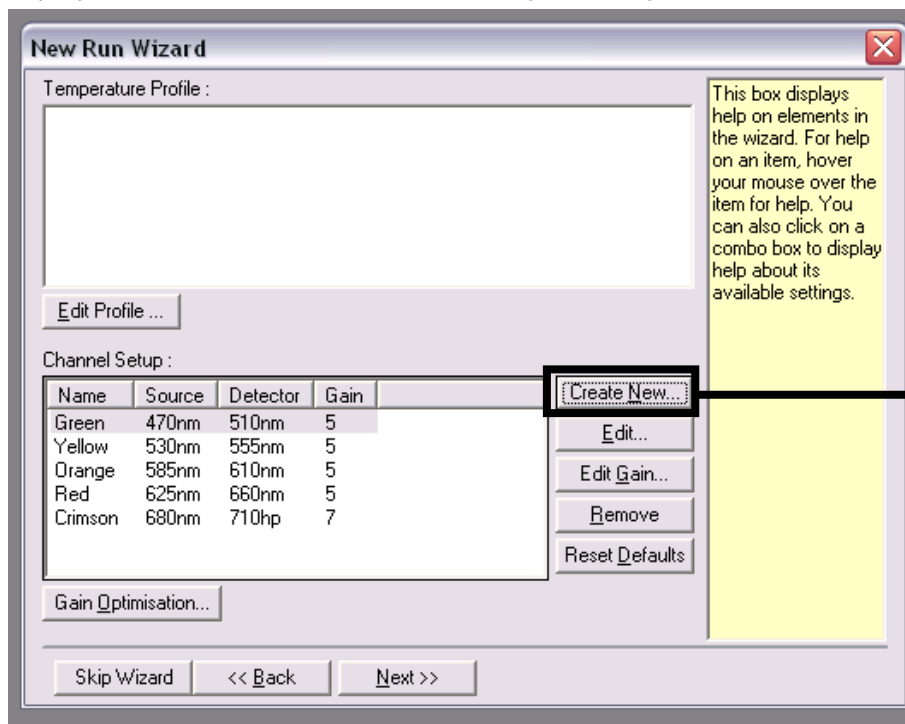
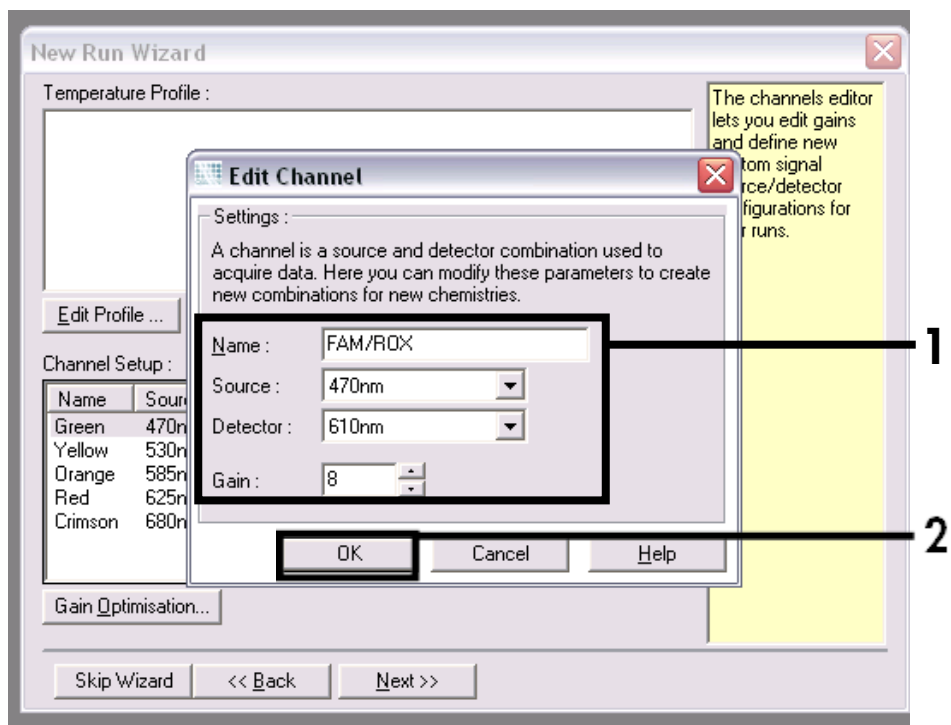
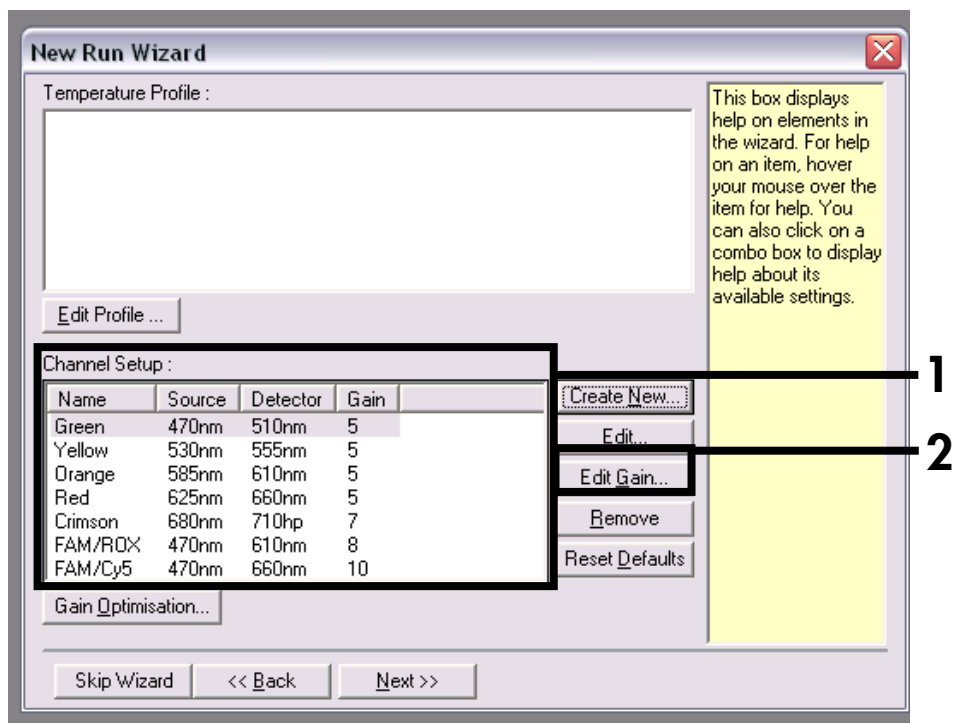

Figure 4. Create new channels.
Figure 5. Create new channel "FAM/ROX".
Figure 7. New channels included.
Creating new channels	Figure 4 to Figure 7
9. Click the “Create New” button in the next “New Run Wizard” dialog box (**Figure 4**), and program 2 additional channels, as shown in **Figure 5** to **Figure 7**.